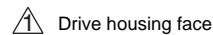

**FIG. 19**
3. FIG. 19. Screw jam nut down onto pump until nut stops. Screw pump up into drive housing until top threads of pump are flush with drive housing face (FIG. 20). Back off pump and jam nut to align pump outlet to side. Tighten jam nut by hand, then tap 1/8 to 1/4 turn with a 20 oz (maximum) hammer to approximately 75 ±5 ft-lb (102 N-m). Connect hose (118) suction hose (57).